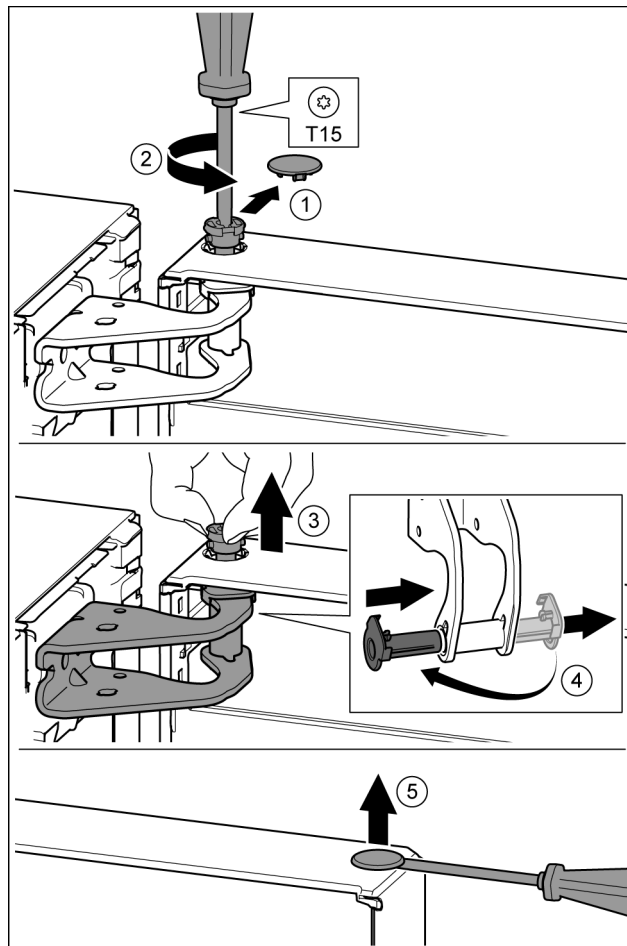

Fig. 13
- Carefully remove the protective cover. Fig. 13 (1)
- Undo the bolt a little with a T15 screwdriver. Fig. 13 (2)
- Hold the door and remove the bolts with your fingers. Fig. 13 (3)
- Pull the bearing bush out of the guide. Insert from the other side and click into place. Fig. 13 (4)
- Carefully lift the plugs out of the door bearing bush with a slotted screwdriver and remove. Fig. 13 (5)